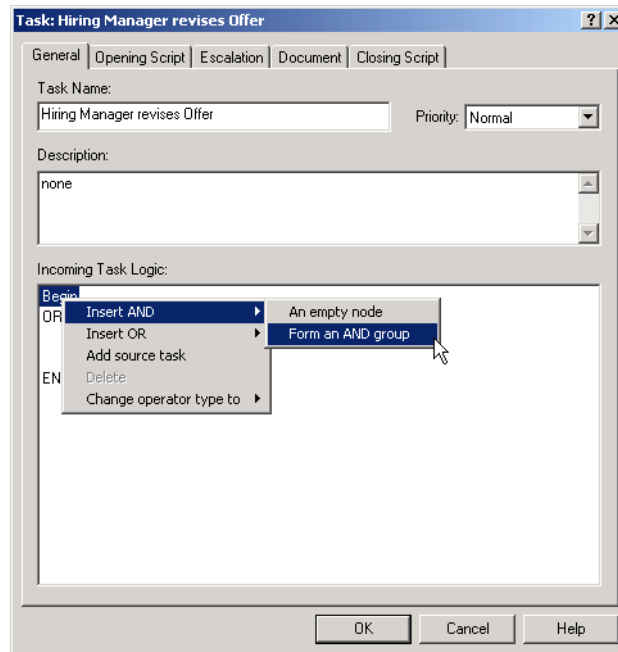

Figure 30-7. Task with Insert AND group drop-down menu.
- ❶ Click on the **General** tab, then click in the Incoming Task Logic screen area.
- ❷ Right-click on the Begin statement in the Incoming Task Logic area, and select either **Form an AND group** from the **Insert AND** drop-down menu; or select **Form an OR group** from the **Insert OR** drop-down menu (see Figure 30-7, below).